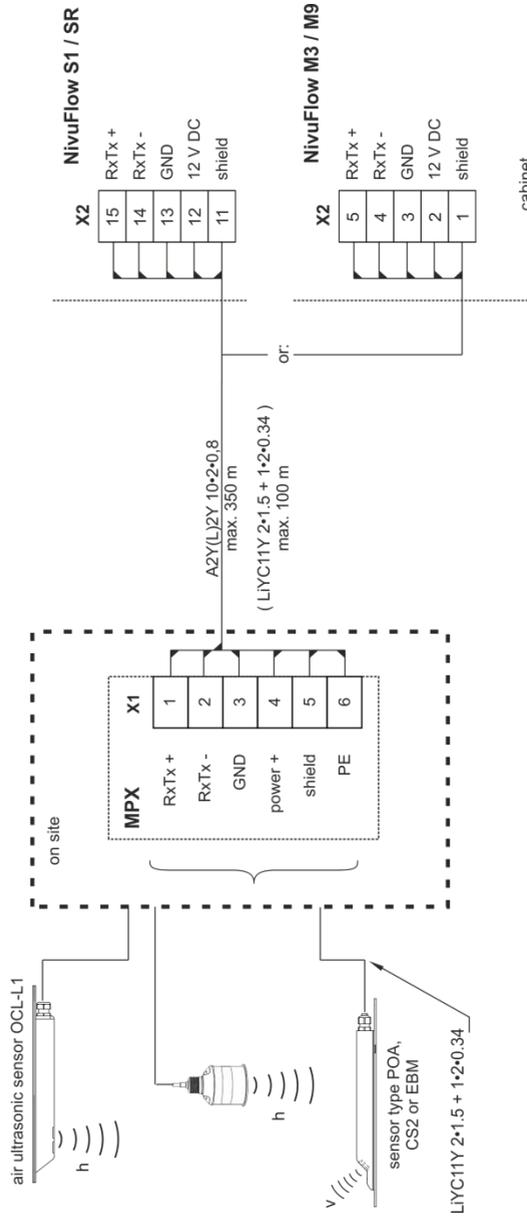

Fig. 13-2 Connection MPX without external power supply to NivuFlow
- 100 m (see Fig. 13-2)
For distances up to maximum 350 m between MPX and the NivuFlow transmitter use a telecommunications cable type A2Y(L)2Y $12 \times 2 \times 0.8$ (or higher wire pair) or technically adequate types (see Fig. 13-2).